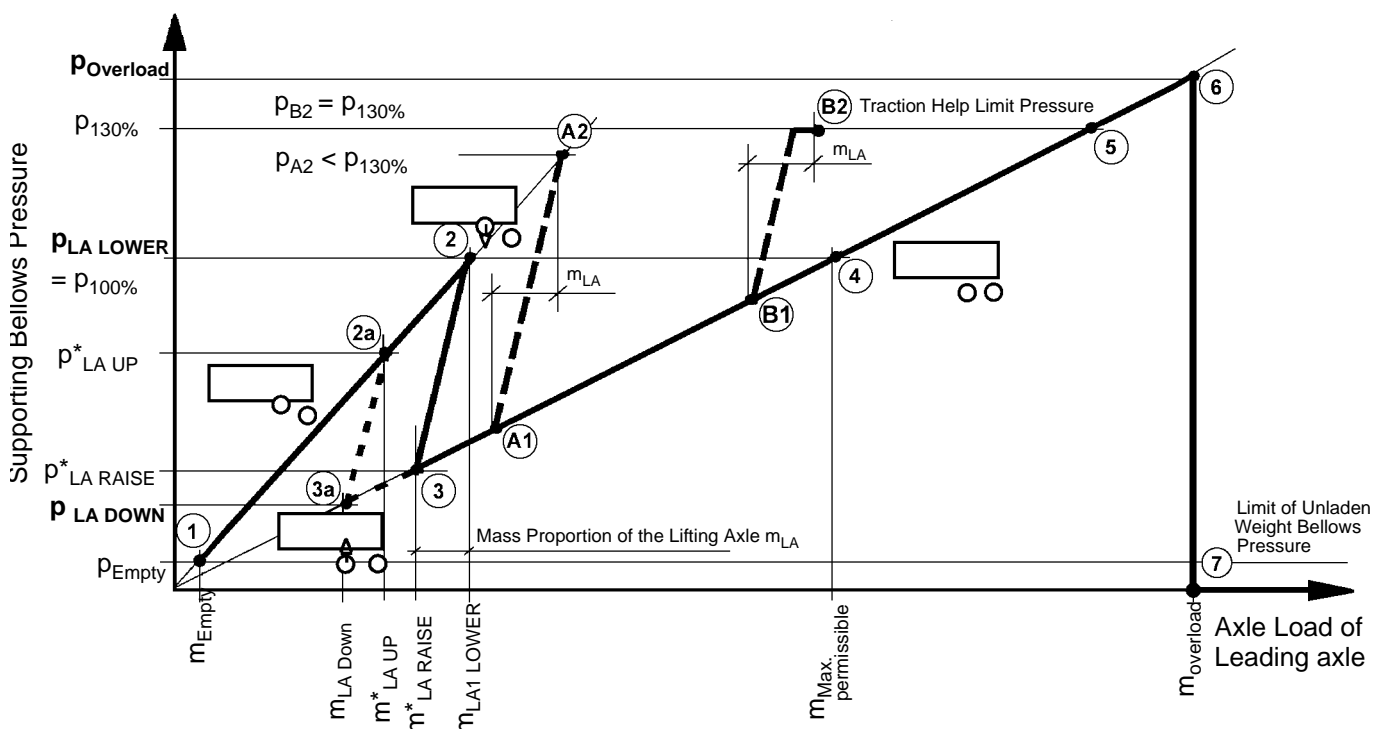

Fig. 3 Lifting Axle Function for Trailers with one Lifting Axle
The thick line in the diagram (Fig. 3) shows the curve for the supporting bellows pressure on the trailer's leading axle as a ratio of the trailer's load. As the trailer is being loaded or unloaded, this line passes through different important points. Some of the pressures in the supporting bellows on the leading axle have to be stored in the ECAS system as part of the procedure for setting the parameters. Other pressures are the result of reactions of the lifting axle and can thus not be influenced - such pres-
For the purposes of the comments below, please imagine a tanker semi-trailer or trailer would be continuously filled with, or drained of, a liquid (\downarrow Fig. 3).
These setting pressures are pointed out in fig. 3.
Generally the traction help facility can be used only if the pressure in the supporting bellows as shown in the fig. 3 between ③a and ⑥ can be associated. That means that the lifting axle must be down. The description follows the requirements of EC Guideline 97/27/EC (EC 97/27).
Fig. 3 uses two examples, starting at Points ① and ①, to show how the traction help works for the different load conditions.